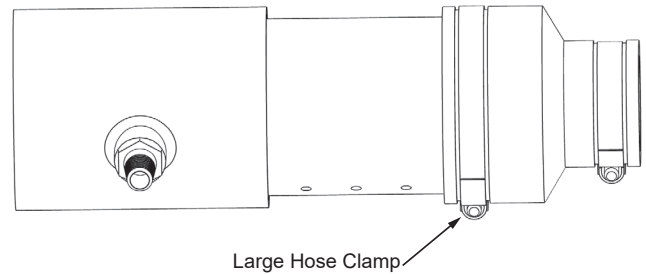

Figure 26. Intake Air Tee Fitting - Side View
3. Loosen the large hose clamp on the Fernco coupling that connects the intake-air connection pipe to the combustion blower. See *Figure 26* (page 33).